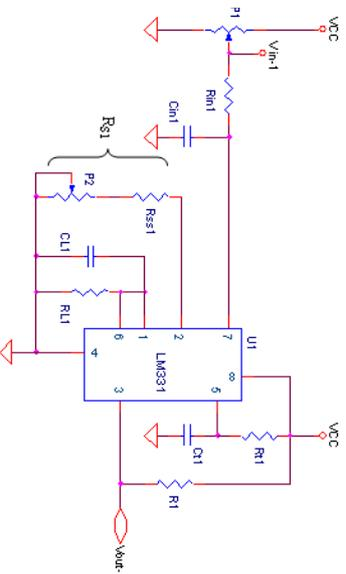
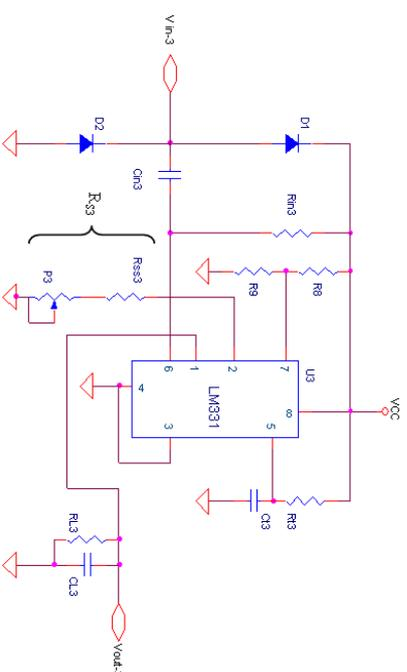
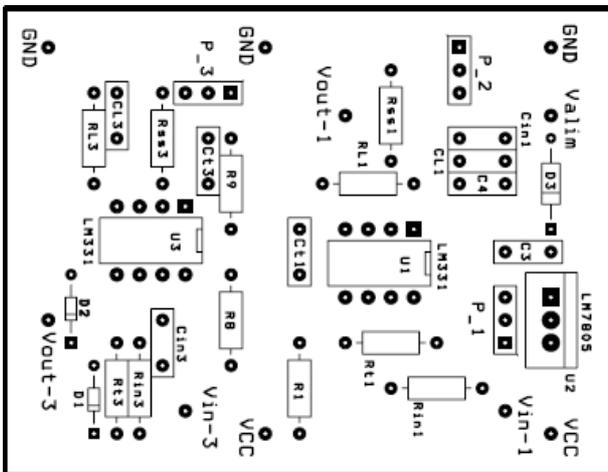
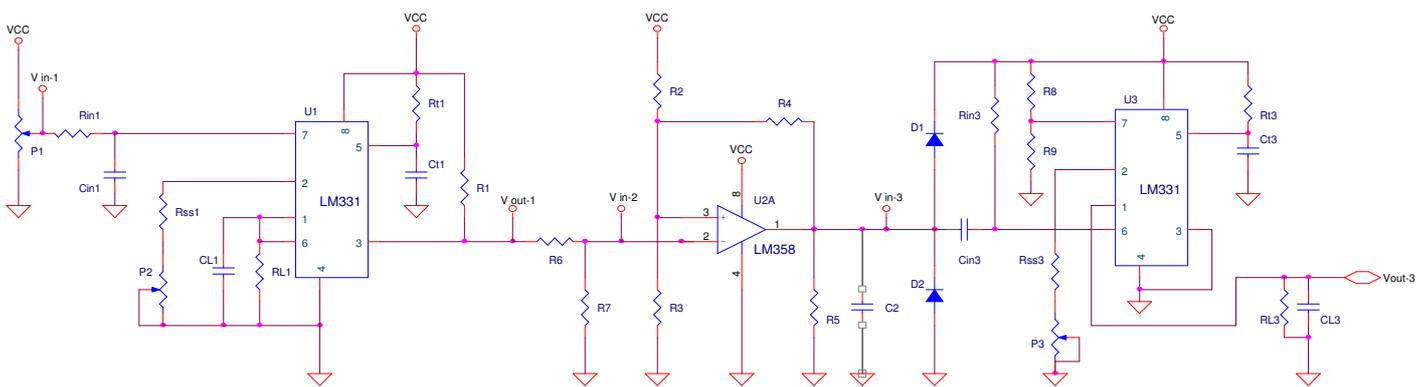

Fig. 8b. Schematic of the voltage-to-frequency converter
Fig. 9. Schematic of the frequency-to-voltage converter
Fig. 11. The assembly of the system of the $U-f$ converter and the $f-U$ converter, on the electronic board
Figure 12: Assembly of the system with $U-f$ converter, voltage divider, hysteresis comparator and $f-U$ converter
a) **Turn off the supply of the circuit** (remove the cable from the orange power supply), if the circuit is supplied. Identify the circuit (Fig.11 and Fig.12), which corresponds to the schematic from Fig. 8b, the input (V_{in-1}) and the output (V_{out-1}) of the voltage-to-frequency converter. Check the correspondence between the schematic and the circuit on the board.
a) **Power off the circuit** and identify the parts (Fig. 11 and Fig. 12) which corresponds to the schematic in Fig.9, and the input (V_{in-3}) and the output (V_{out-3}) of the frequency-to-voltage converter, also. Check the correspondence between the schematic and the circuit. Connect the scope (CH2), and the proper voltmeter, to measure the DC voltage V_{out-3} , and the scope (CH1) and the frequency meter at V_{in-3} to view the input waveform and to measure its frequency. Input TTL signal from the corresponding output of the generator (press **SHIFT+9**) and **power on the circuit**.
a) **Power off the circuit,** disconnect the function generator and make the assembly from Fig.12 (without C_2), where $R_2 \approx 68\text{K}\Omega$, $R_6 \approx 27\text{K}\Omega$, $R_7 \approx 5.6\text{K}\Omega$. Use the same settings for the U-1 and the f-U converters (at points 1 and 2), as well for the circuit for the comparator (from point 4).